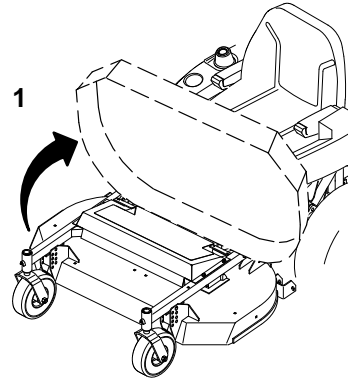

Figure 13
4. Standing in front of the mower, lift up and push rearward on front to raise mower (Fig. 13).